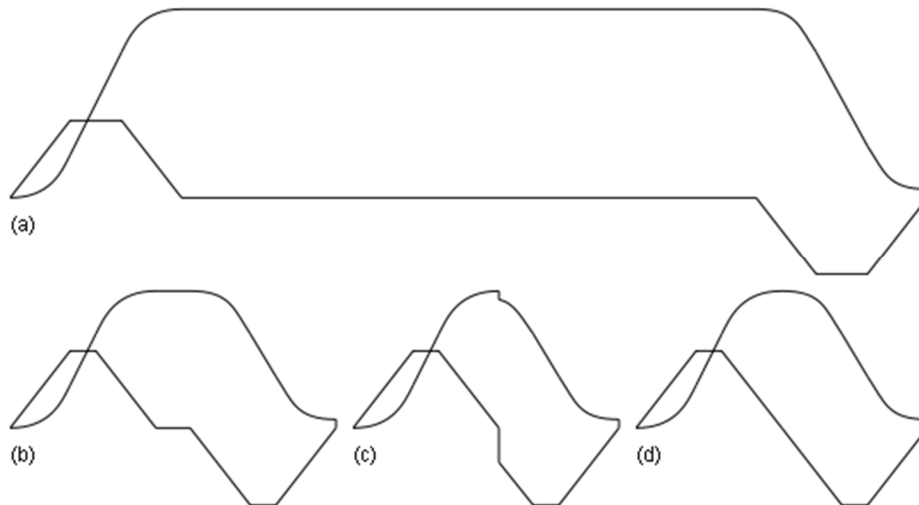

Figure 1 Velocity and acceleration
1. Depending on how the drive is tuned, the amount of lag between the commanded speed and drive response can vary. As a result, as the drive is adjusted, the Lag Delay parameter in the controller's View ⇒ Configuration ⇒ Pattern ⇒ Common menu will need to be changed as well. Use the information below along with the information in Figure 1 (Velocity and Acceleration) to make these adjustments. Generally, the lag will be between 50 and 150 milliseconds.